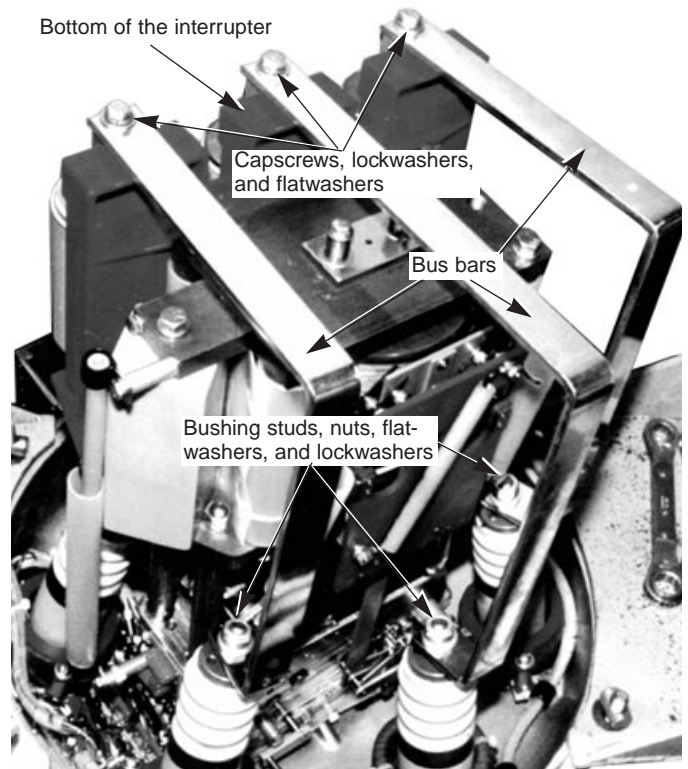

Figure 13.
4. Place a bus bar on each of the bushing studs and align the bus bar screw holes on the bottom of the interrupter (refer to Figure 13). The bus bars are pre-formed at different angles to fit in only one position. It may be necessary to switch the bus bars around to determine their exact position.
A. Attach the bus bars to the bottom of the interrupter using the capscrews, bronze lockwashers and brass flatwashers saved earlier (refer to Figure 13).
B. Tighten the bus bars to the bottom bushing studs using the previously saved nuts, flatwashers and lockwashers. Place a flatwasher on the bottom bushing stud first, then the bus bar, followed with another flatwasher, the lockwasher, and then the nut (refer to Figure 13). Tighten the bus bar hardware.